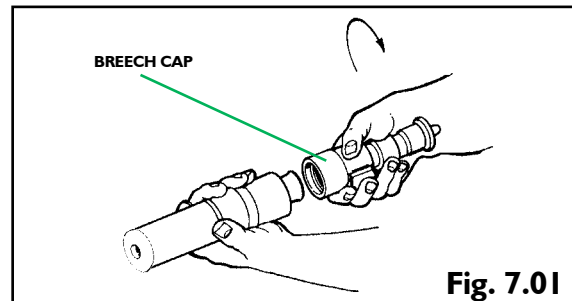

Fig. 7.01
- 1.1 Turn the breech cap counter clockwise and pull away. (See Fig 7.01)